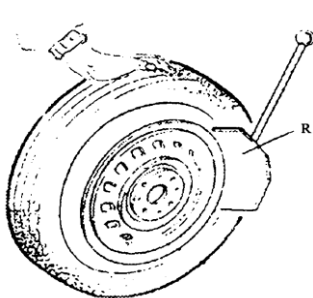

Fig 5
Ensure to exhaust the air in the tyre completely, place the tyre against the rubber buffer (S). Bring the paddle (R) against the bead about 10mm from the edge of the rim shown as Fig 5. Tread Bead breaker Pedal (U) to push paddle into tyre. Repeat the above operations on different positions around the tyre and both sides of tyre until tyre bead is released completely.